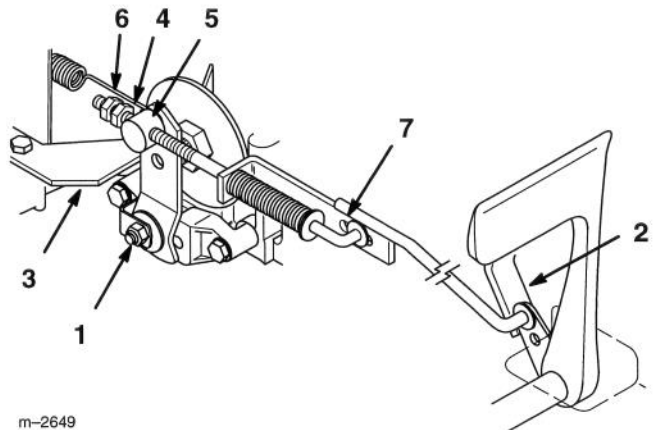

Figure 6
1. With brake lever against stop plate adjust brake adjusting nut so brake disc just rotates when wheel hub is turned by hand (Fig. 6).
2. With brake pedal back against pedal stop, turn adjusting nut against trunnion until brake lever just touches stop plate. Brake pedal should begin to move brake lever before the brake spring starts to compress (Fig. 6). Tighten second jam nut to hold adjustment.
Note: When brake pedal is fully depressed, brake rod must not contact end of slot (Fig. 6).